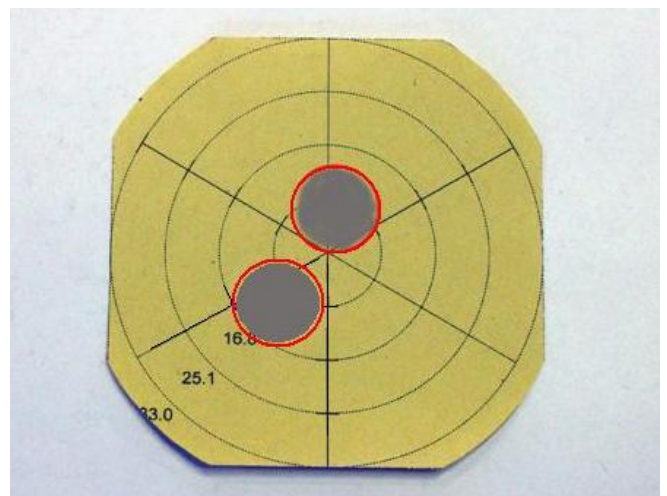

Figure 3
- fewer than 3 spray beams are visible (figure 3)